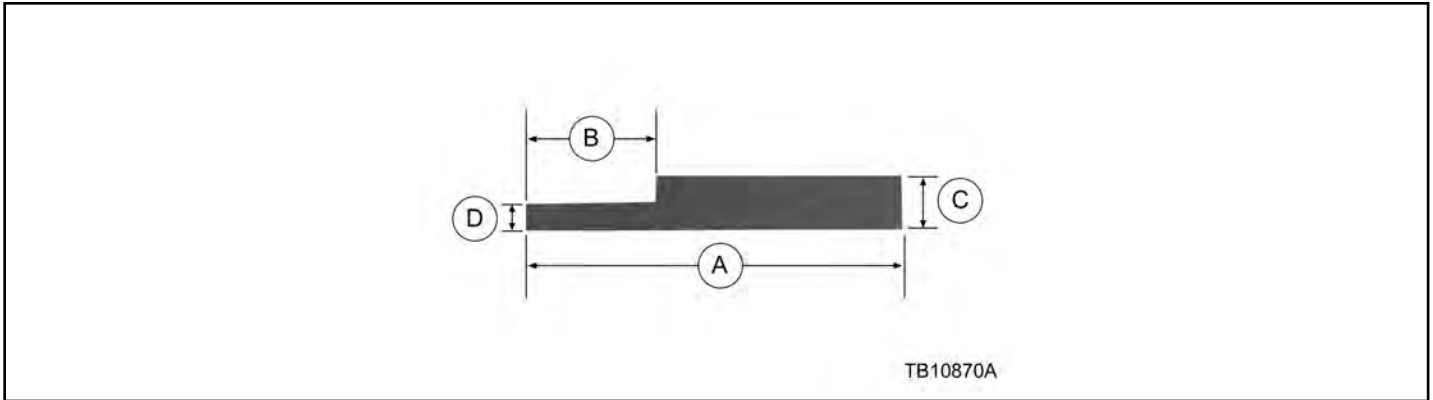

Figure 6 - Article 16-0022
8. Cut one piece of PVC soft foam tape 164-R4901 from Rotunda Squeak and Rattle kit 164-R4900 as shown. (Figure 6)